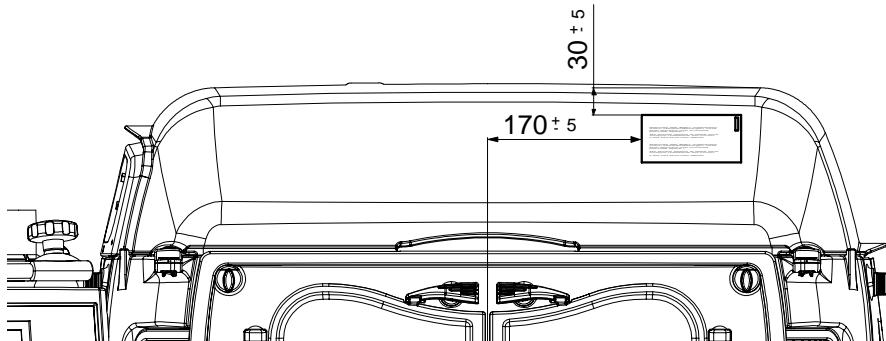

Fig. 3 View of the canopy front with "Doors open" warning label
1. Attach warning label to specified area, see Fig. 3.